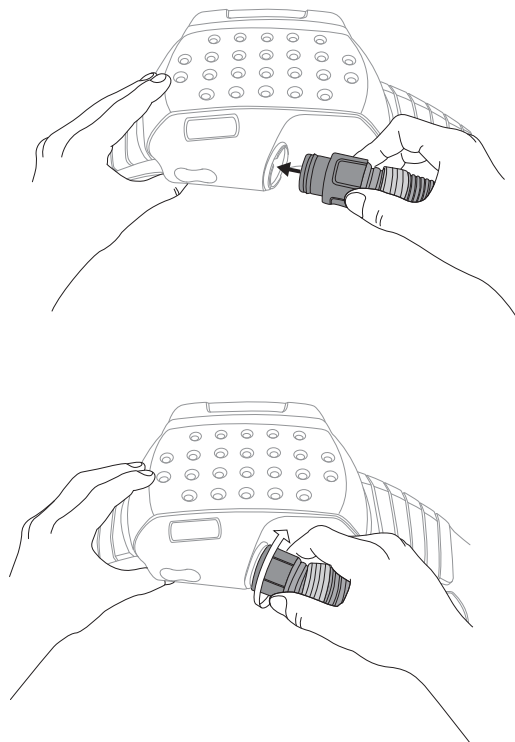

Fig. 31g
- viii. Attach the breathing tube to the PAPR unit and plug in the task light to the 3M™ Adflo™ Li-ion Battery, securing it in place with the hook and loop fastener that holds the PAPR unit to the belt (Fig. 31g and 31h).